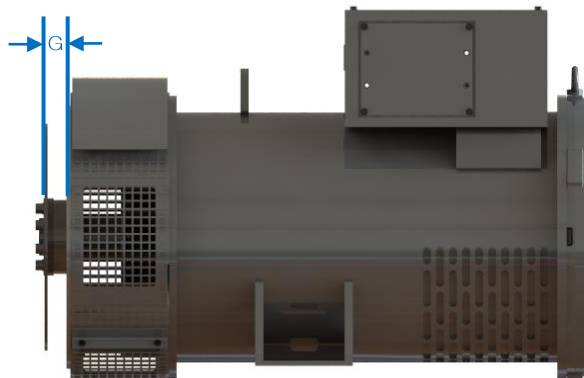

Figure 9.1: Measuring of “G Quota”
3. Use a vernier caliper and a rule to check the measuring between the coupling disc face and the flange face, according to Figure 9.1.